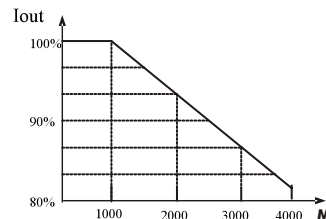

Figure 1-4 Diagram of Inverter Derating Curve
- Due to thin air in a place where the altitude is higher than 1,000m, the heat dissipation of inverter will be less effective. Hence derating should be done before use. In general, when the height rises by 1,000m, the rated voltage of the inverter shall reduce by 10%. Refer to the Figure 1-4 for details of the derating curve.